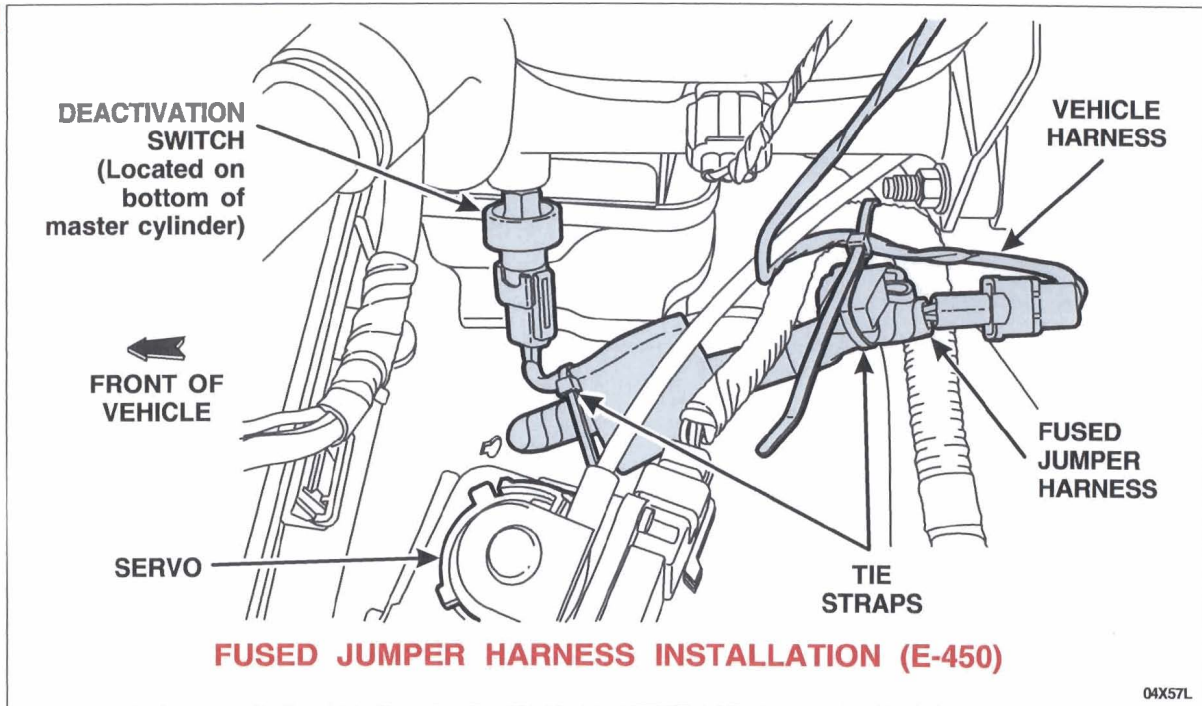

FIGURE 5
2. On E-450 models, secure the 2-wire take out to the larger portion of the fused jumper harness before installation, as shown in Figure 5.